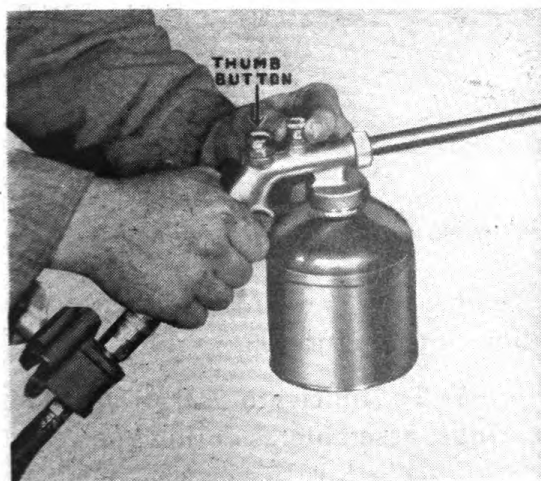

Figure 86
a. Attach air service hose on reel to air inlet of spray (See Figure 86).
b. Hold spray in either hand with nozzle tip near part to be sprayed and depress thumb button (See Figure 86) until part is covered with oil.
c. To increase or decrease the amount of oil mist turn the small knurled screw (See Figure 86). Turn clockwise to increase and counter-clockwise to decrease the amount.